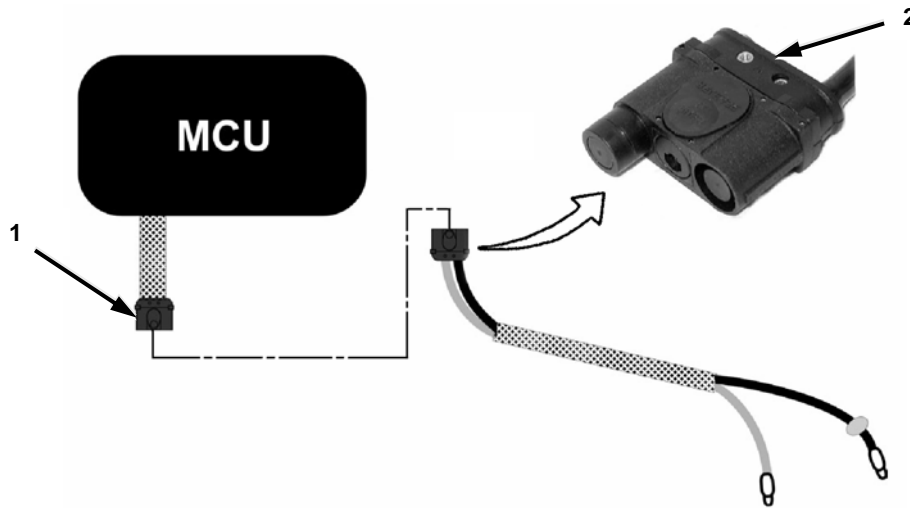

Figure 2-32. Release Tether for Purging MCU.
Step 4 below applies to Figure 2-32.
4. Connect release tether (2) to MCU (1).